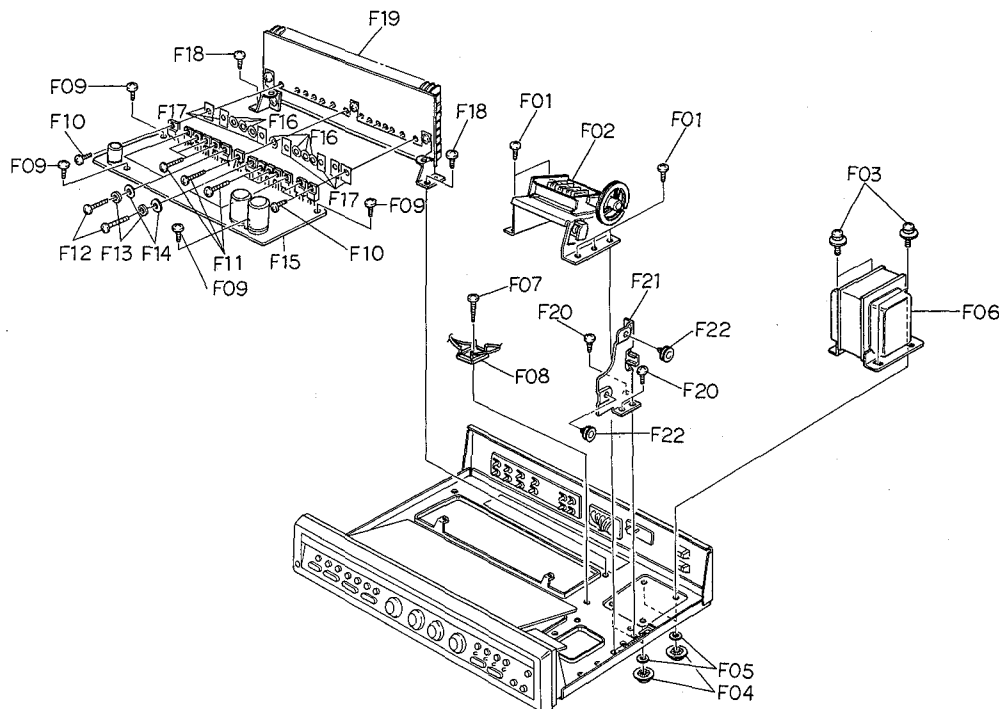

Fig. 3.2
Refer to Fig. 3.2. Remove Top Cover referring to item 3.1. Remove F01, then F02 (Front-end Holder Ass'y). Dial Thread should be removed.
Refer to Fig. 3.2. Remove Top Cover referring to item 3.1. Remove F03, F04 and F05, then F06 (Power Transformer).
Refer to Fig. 3.2. Remove Top Cover referring to item 3.1. Remove F07, then F08 (Diode Bridge).
Refer to Fig. 3.2.
Refer to Fig. 3.2. Remove F20, then F21 (Pulley Holder B), and F22 (Pulley Ass'y) by pulling out.